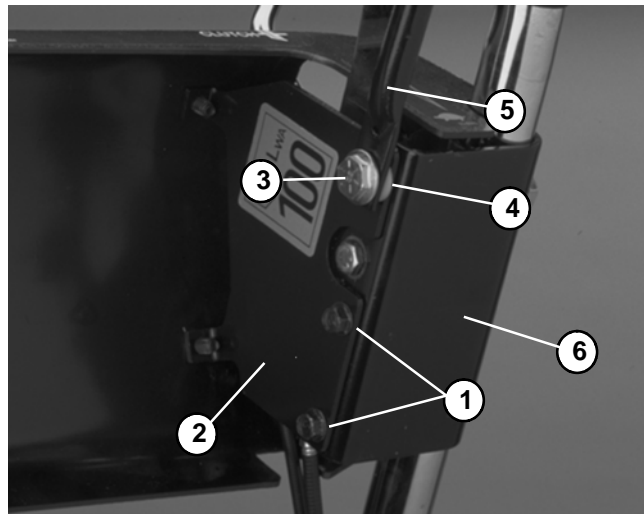

Figure 8
6. Gain access to the clutch lever and clutch cable as follows (Fig. 8):
2. If the operator presence kit is installed, reinstall console bracket to the clutch skid bracket. Secure brackets with both screws. Secure bail assembly and spacer to the clutch skid bracket with the shoulder bolt (Fig. 8).
3. If the operator presence kit is **not** installed, secure console bracket to the clutch skid bracket with three screws (Fig. 8).